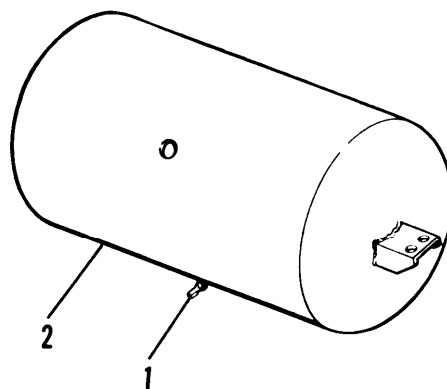

Figure 2-10. Air Reservoir Drain Cock
a. The draincock (1, fig. 2-10) is used to relieve air pressure in the semitrailer braking system.
b. It is also used for drainage of moisture collected in air reservoir (2).